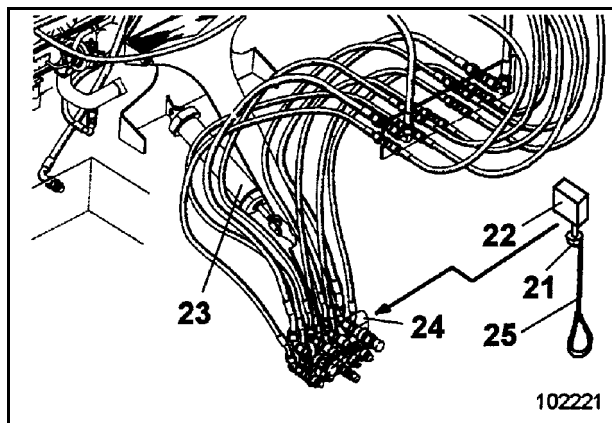

Fig. 2-63:
Draw out control knob (21, Fig. 2-63:) of valve (22) with rope (25). The service station is brought down to the lower position. Turn knob (21) by 90° and engage.